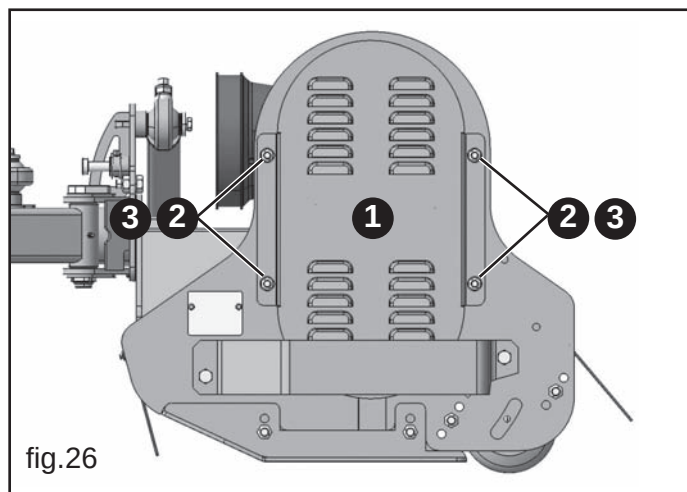

fig.26
- Remove the carter protection (1 fig.26), unscrewing the fixing screws (2 fig.26).
- Remove the nuts fastening the protecting guard (3 fig.26).